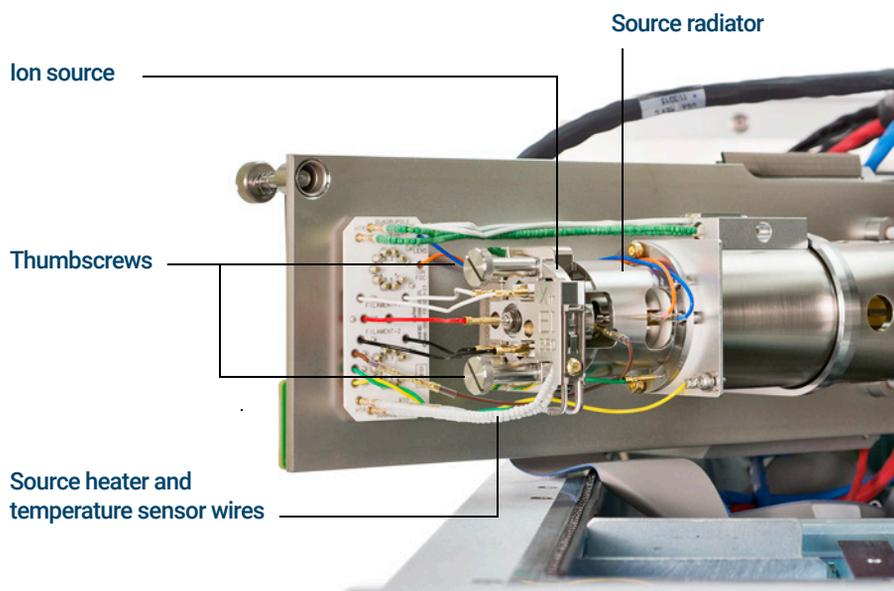

Figure 68. Installing the EI XTR or HydroInert source on a 7000 Series MS
- 3 Slide the ion source into the source radiator. (See **Figure 68** on page 211.)
- 4 Install and hand-tighten the source thumbscrews. Do not overtighten the thumbscrews. (See **Figure 68** on page 211.)